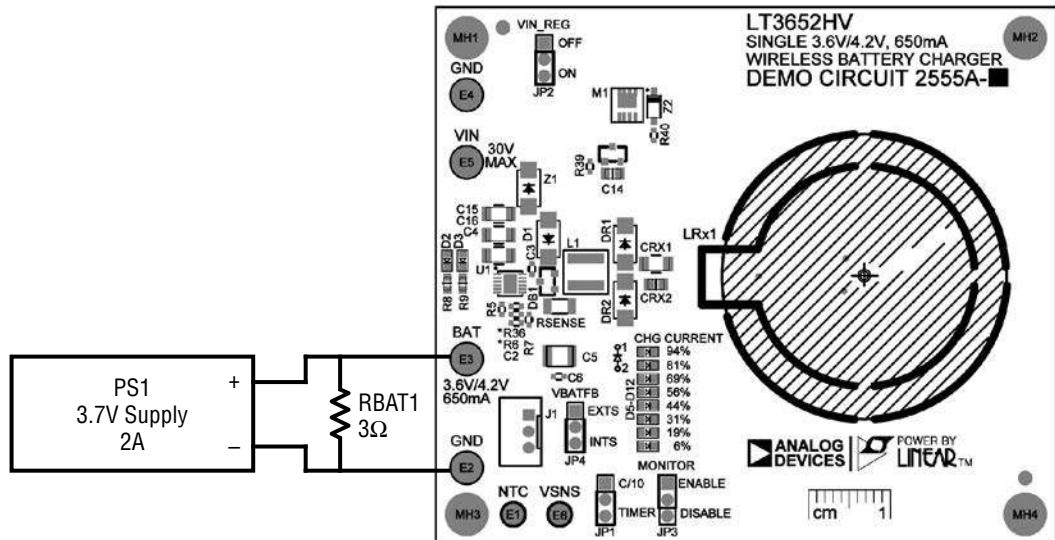

Figure 4. DC2555A-A/DC2555A-B Connection
2. Connect a voltage source PS1 and a 3Ω resistor RBAT1 in parallel between the BAT and GND turrets of DC2555A (Figure 4). PS1 and RBAT1 make up the battery emulator. Typical power supplies cannot sink current. By adding a resistor across the power supply inputs that draws more current than the maximum battery charging current, the power supply only sources current even when the battery charge current is at its maximum value.